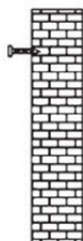

Fig. 2
4. Insert the expandable tubes into the holes and tighten them firmly with suitable screws (see Figure 2). NOTE: Tighten the screws firmly but not completely into the expansion pipe; the length of the bare parts should be 10 mm.